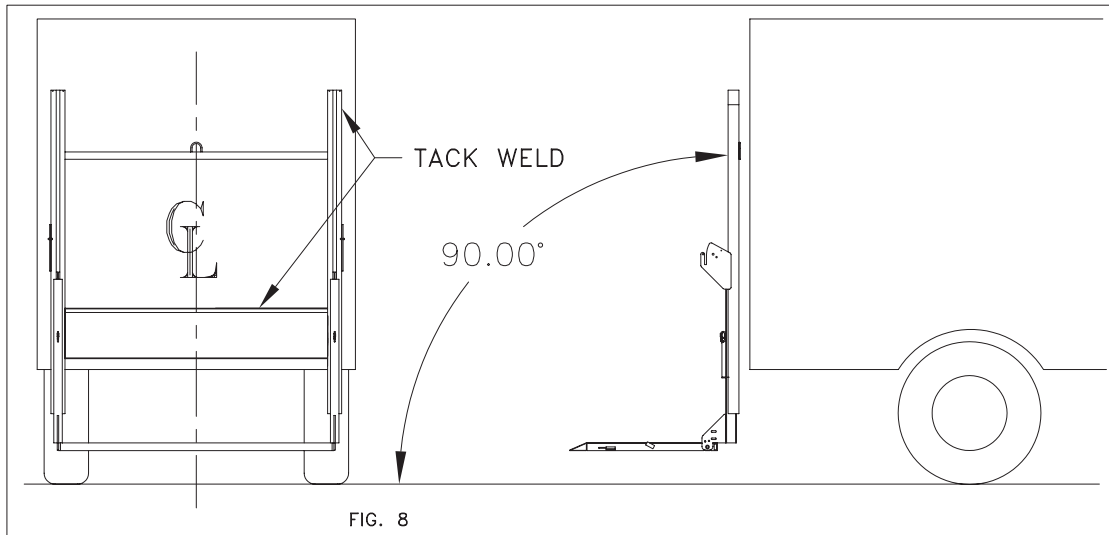

FIG. 8
- Step 7** Center the liftgate on the truck body and tack weld frame of liftgate to rear sill and to the rear post of body as shown in figure 8. **DO NOT REMOVE FORKLIFT OR CRANE UNTIL ALL WELDING IS COMPLETE!**